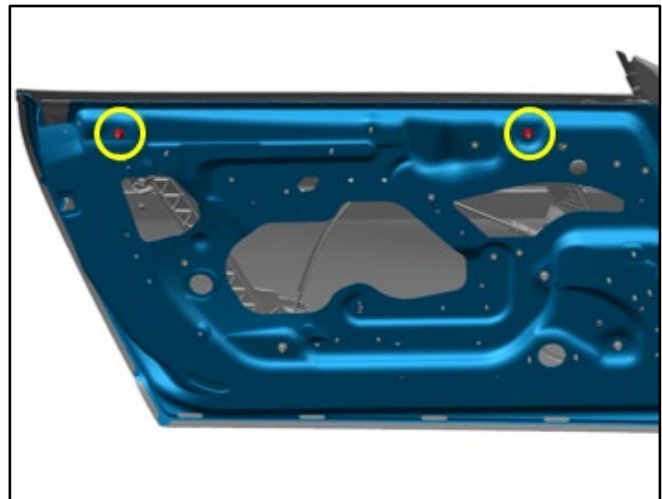
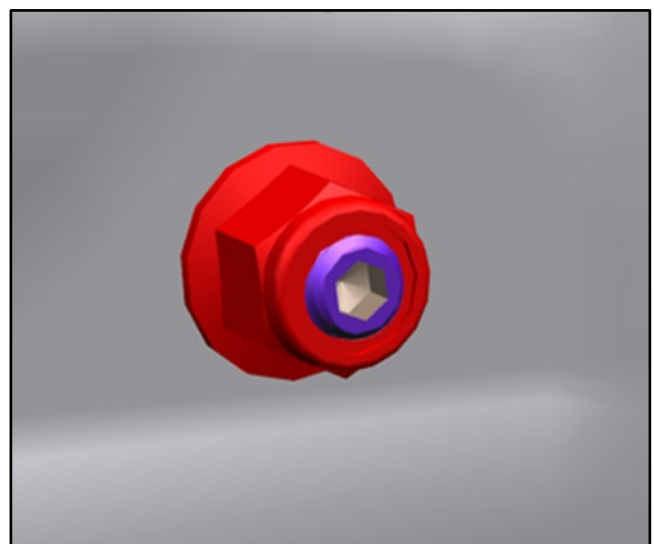

Figure 1
Figure 2
4. Identify the top two fixings that are used to adjust the door glass. (Refer to Figure 1 and Figure 2.)